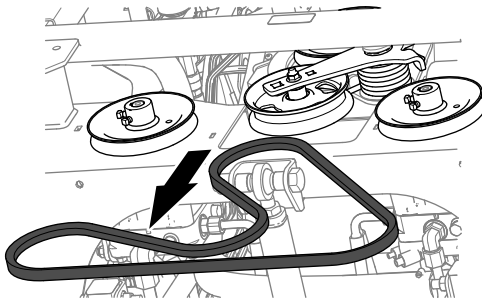

Figure 91
3. Slip the belt from the pulleys (Figure 91).